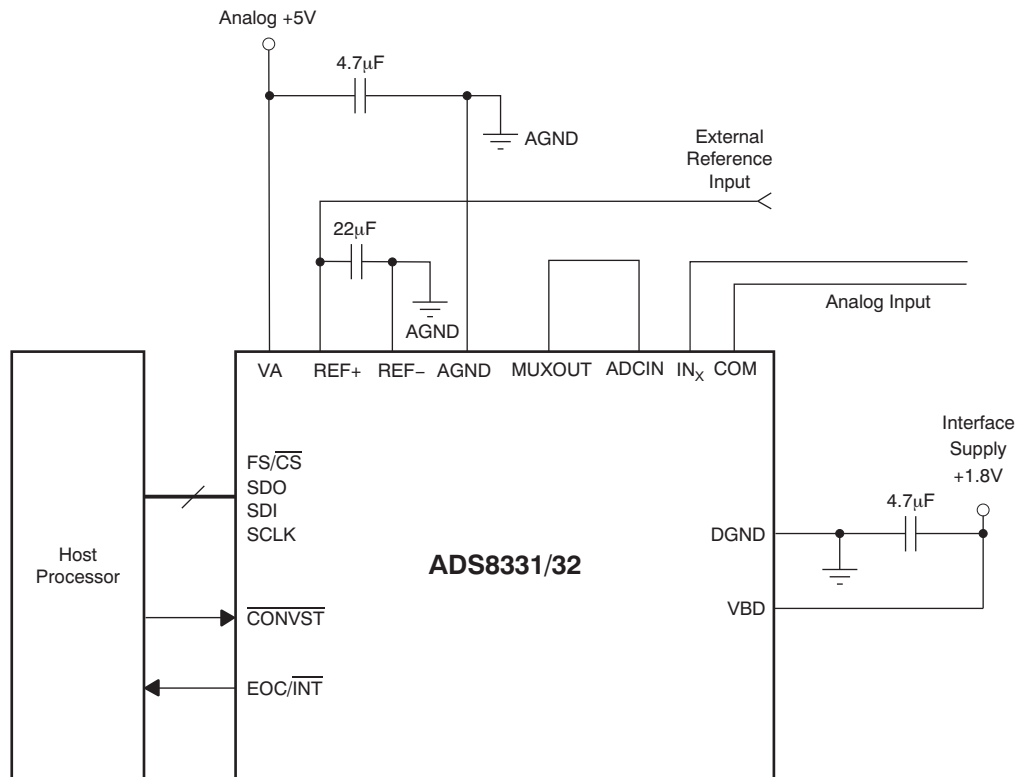

Figure 50. Typical Circuit Configuration
Figure 50 illustrates a typical circuit configuration using the ADS8331/32.
- Deleted Figure 50 and changed text in first paragraph 33